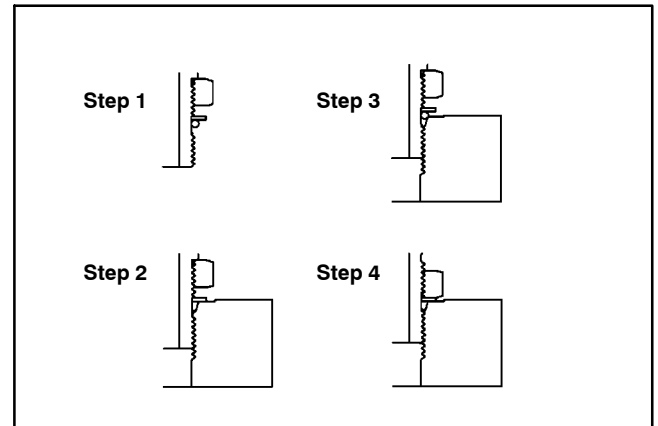

Figure 7
4. Turn back the lock nut as far as possible. Make sure the back up washer is not loose and is pushed up as far as possible (Step 1 in Figure 7).